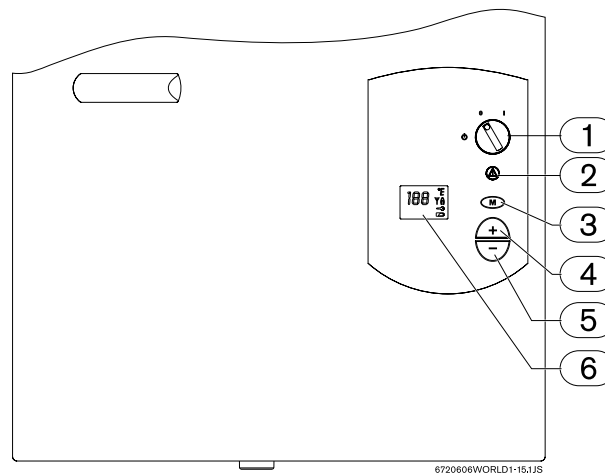

Fig. 29
ON/OFF switch in OFF position (Fig. 29, pos. 1).
- ▶ Press and hold  key (Fig. 29, pos. 5) while at the same time turn the main switch (Fig. 29, pos. 1) to "ON" position (I).
- ▶ Switch ON/OFF switch (Fig. 29, pos. 1) to "OFF" position (0) and then back on (I).
- ▶ Press "Program" key (Fig. 29, pos. 3) for 3 seconds.